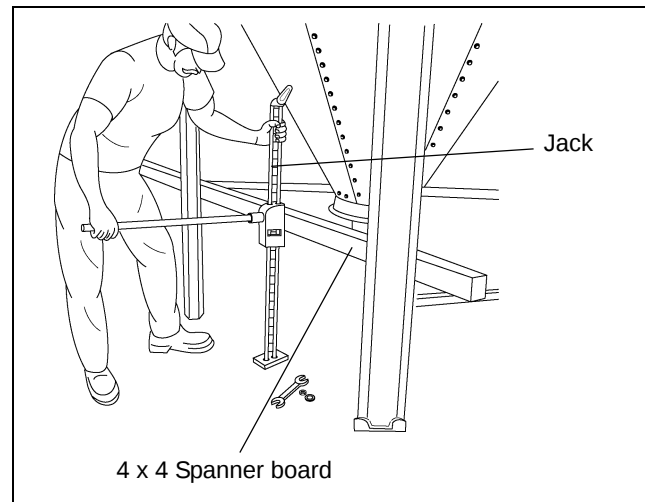

Figure 4D Jacking Up the Bin
1. Place 4 x 4 spanner board under bin hopper braces. (See Figure 4D.)
2. Center lift jack under 4 x 4 spanner brace. (See Figure 4D.)